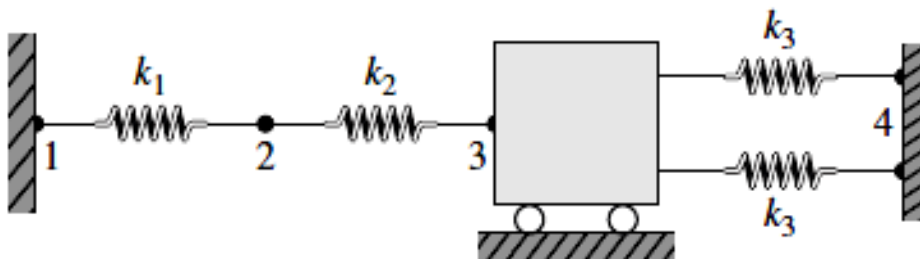

Fig. 1
3. For the assembly of springs as shown Fig.1 below, determine global stiffness matrix of the whole spring assembly system using Rayleigh-Ritz Method and also find out deflection of the cart at junction 3.